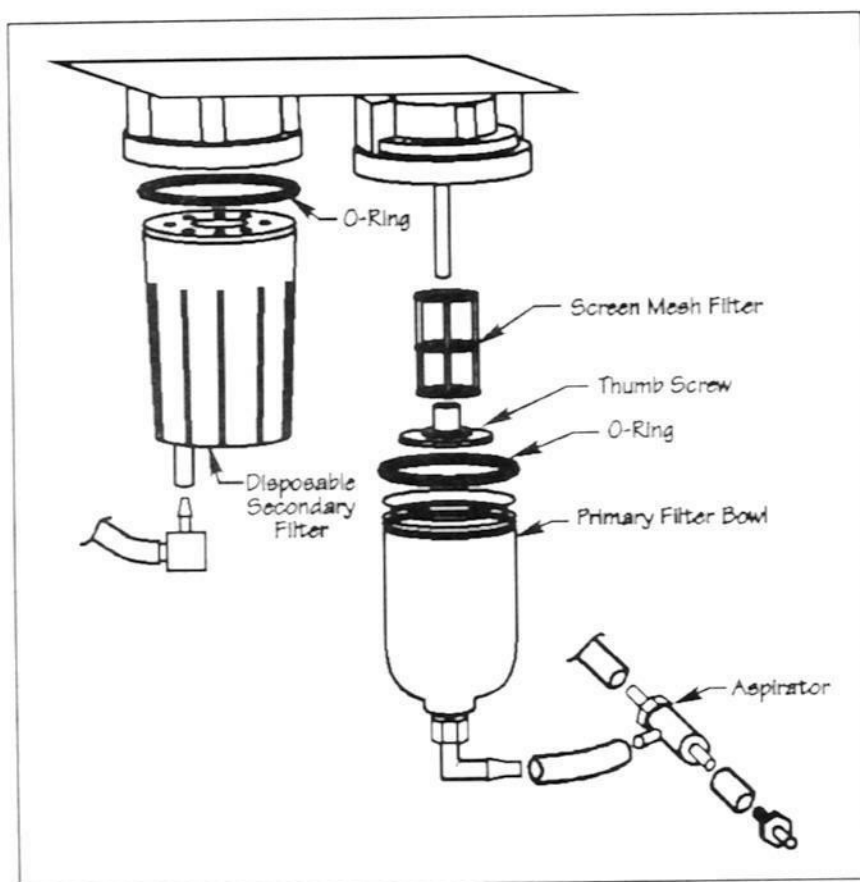

Figure 6-4
The second type of filter assembly is composed of a primary water-trap filter and a disposable secondary filter (see Figure 6-4). The primary filter can be cleaned and reused. Replace the secondary filter every two weeks or whenever the screen displays a "Low Flow" message during calibration. Sample filters are low-cost insurance to protect the analyzer — replace the secondary filter regularly.
1. Disconnect the plastic hose from the elbow on the bottom of the primary filter bowl (see Figure 6-4).
1. Remove the hoses from the aspirator (see Figure 6-4).